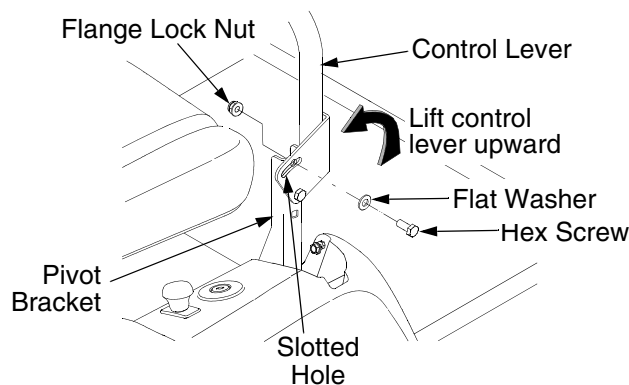

Figure 2
- Lift and swing that control lever upward until the slotted hole in the lever bracket aligns with one of the holes in the pivot bracket. Refer to Figure 2.
- Slide the flat washer onto the hex screw. **From the outside**, insert the hex screw w/washer through the control lever slot and the hole of the pivot bracket. Secure with the flange lock nut. See Figure 2.